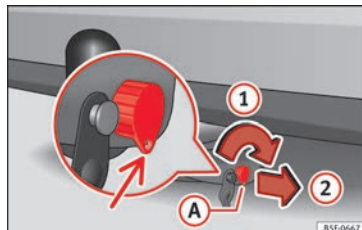
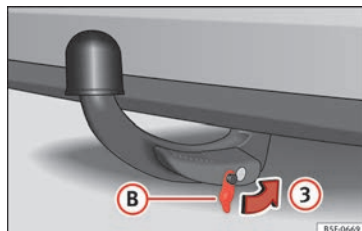

Fig. 237 Locking the lock.
Fig. 238 Placing the cover over the lock.
- Turn key **A** in the direction of arrow **①** until the part of the key with the holes reaches the bottom position **»» Fig. 237**.
- Remove the key in the direction of arrow ②.
- Place cover ① in the lock in the direction of arrow ③ » Fig. 238 » ①.